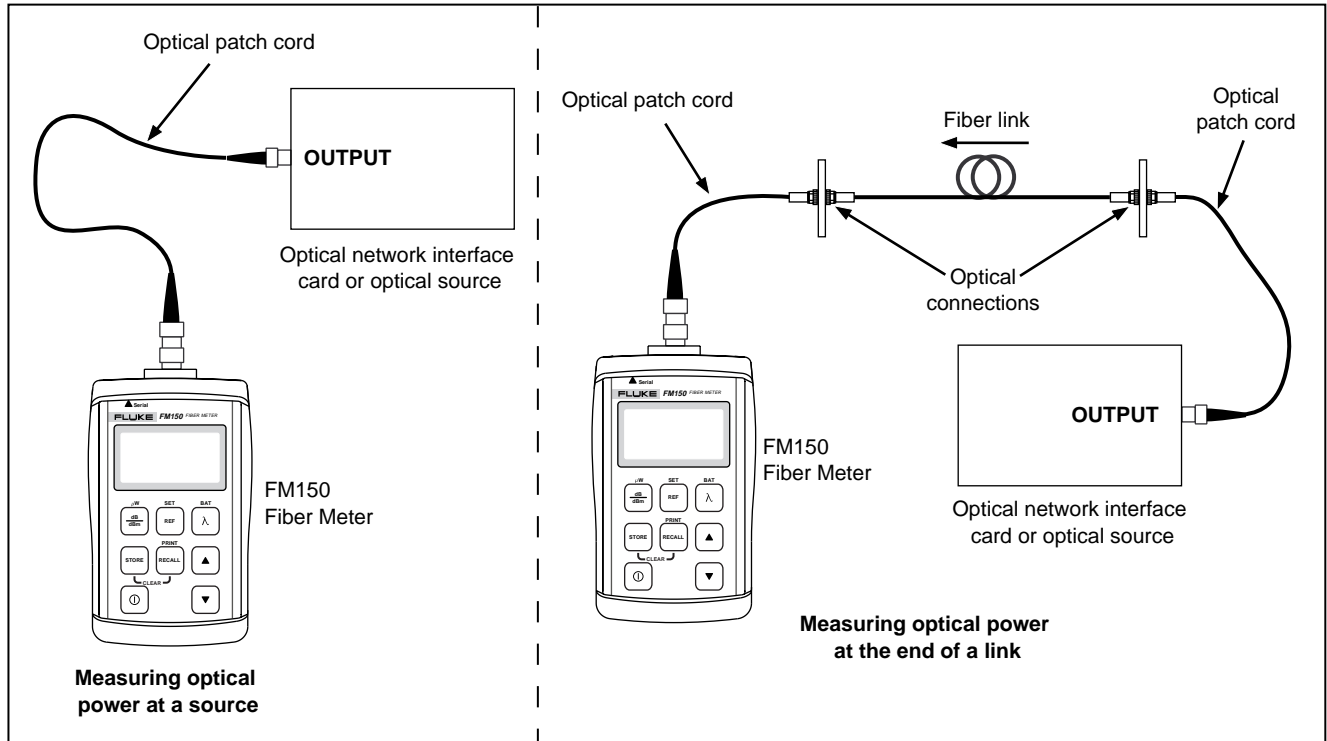

Figure 5. Measuring Optical Power
3. Make the connections shown in Figure 5.